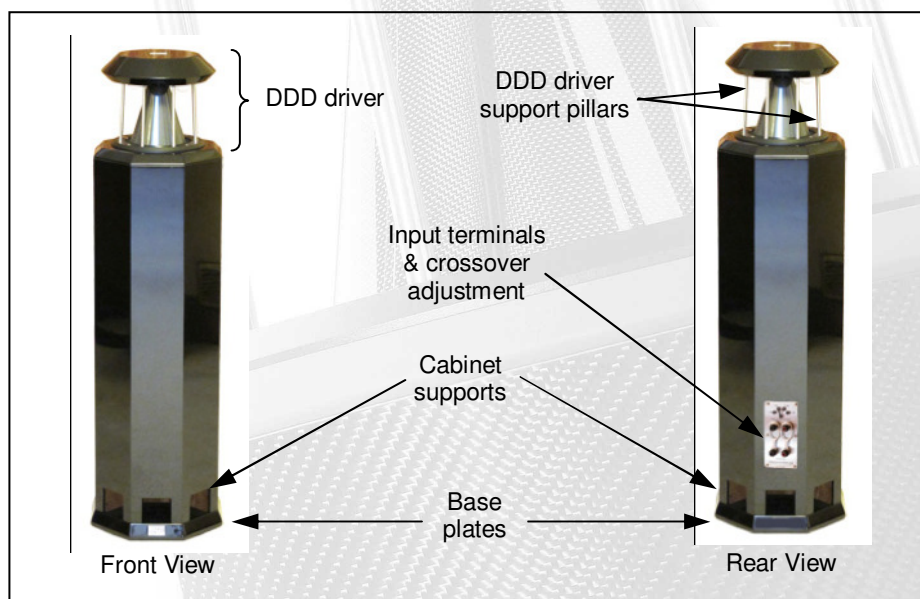

Figure 5. Principle features of the HRS-130
Do not lift them by the DDD driver support pillars (figure 5) as this may damage the driver.
Do not lift them by the cabinet supports (figure 5) as this may damage the cabinet.
**Do not lift by the DDD driver support pillars or by the cabinet supports – see figure 5.**